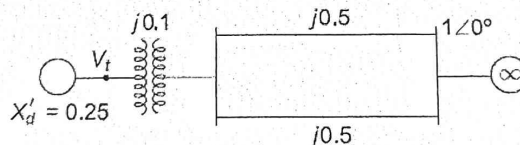

Figure 8(a)
7. a) Discuss with relevant figures, the point by point method for solving swing equation under i) pre fault, ii) post fault and iii) during fault condition. CO4 (10)
- b) At the beginning of a particular iteration in solution of swing equation,  $\delta = 0.756 \text{ rad}$  and  $\omega = 2.067 \text{ rad/sec}$ . The mechanical power input = 0.8 p.u. and the inertia constant  $M = 0.0331 \text{ s}^2/\text{rad}$ . If the maximum electrical power is 1.333 p.u., determine the values of  $\delta$  and  $\omega$ , for the next 3 iterations using Runge Kutta method, choosing step size of 0.02 sec. CO4 (10)
8. a) The generator of Figure 8(a) is delivering 1.0 p.u power to the infinite bus ( $|V| = 1.0 \text{ pu}$ ), with the generator terminal voltage of  $|V_t| = 1.0 \text{ pu}$ . Calculate the generator emf behind transient reactance. Find the maximum power that can be transferred under the following conditions: CO4 (10)